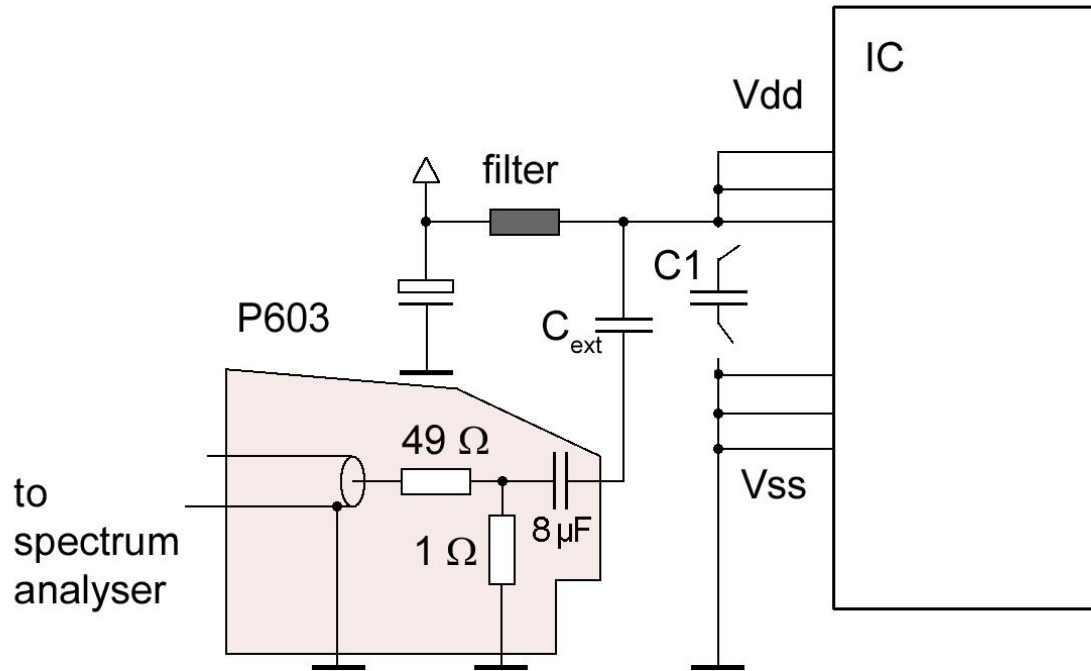

Figure 5: P603, current measurement with a direct current block (Cext) on concatenated Vdd pins.
1. Current measurement (**P603**) on concatenated Vdd pins (with external capacity), **Figure 5**